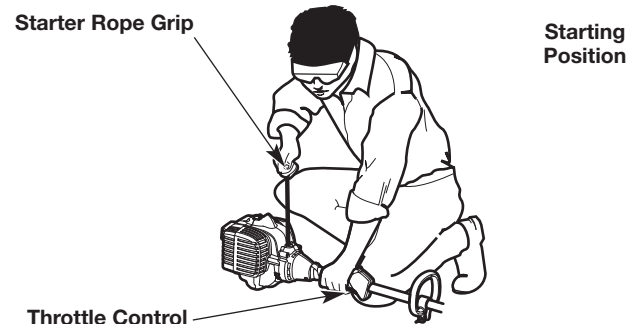

Fig. 11
WARNING: Avoid accidentally starting the unit. To avoid serious injury, the operator and the unit must be in a stable position when pulling the starter rope (Fig. 11).
3. Crouch in the starting position (Fig. 11).
5. Pull the starter rope with a controlled and steady motion **5 times** (Fig. 11).